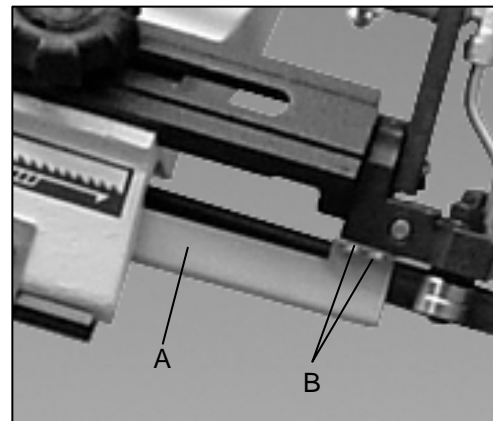

Fig. 11
3. Remove yellow blade guard assembly (A, Fig. 11) by removing two screws (B).